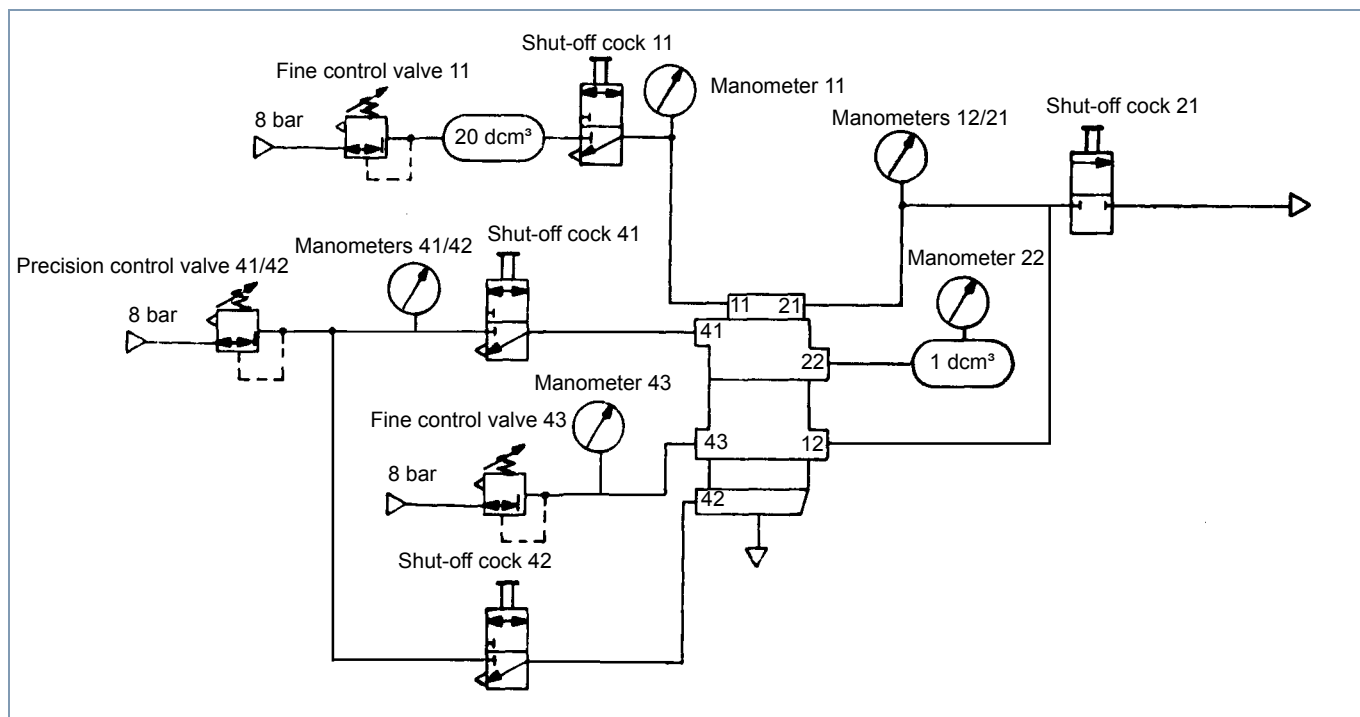

Fig. 3 Test diagram "Main Valve"
- Test bench 435 197 000 0 or adequate testing equipment (see fig. 3 and 4)
! If you do not have test bench 435 197 000 0 you must test the device according to the following testing diagram (see fig. 3).